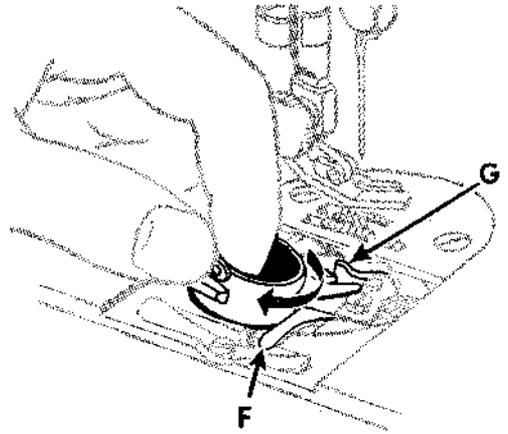

FIG. 54.
- Lift and move latch F, Fig. 54, to position shown.